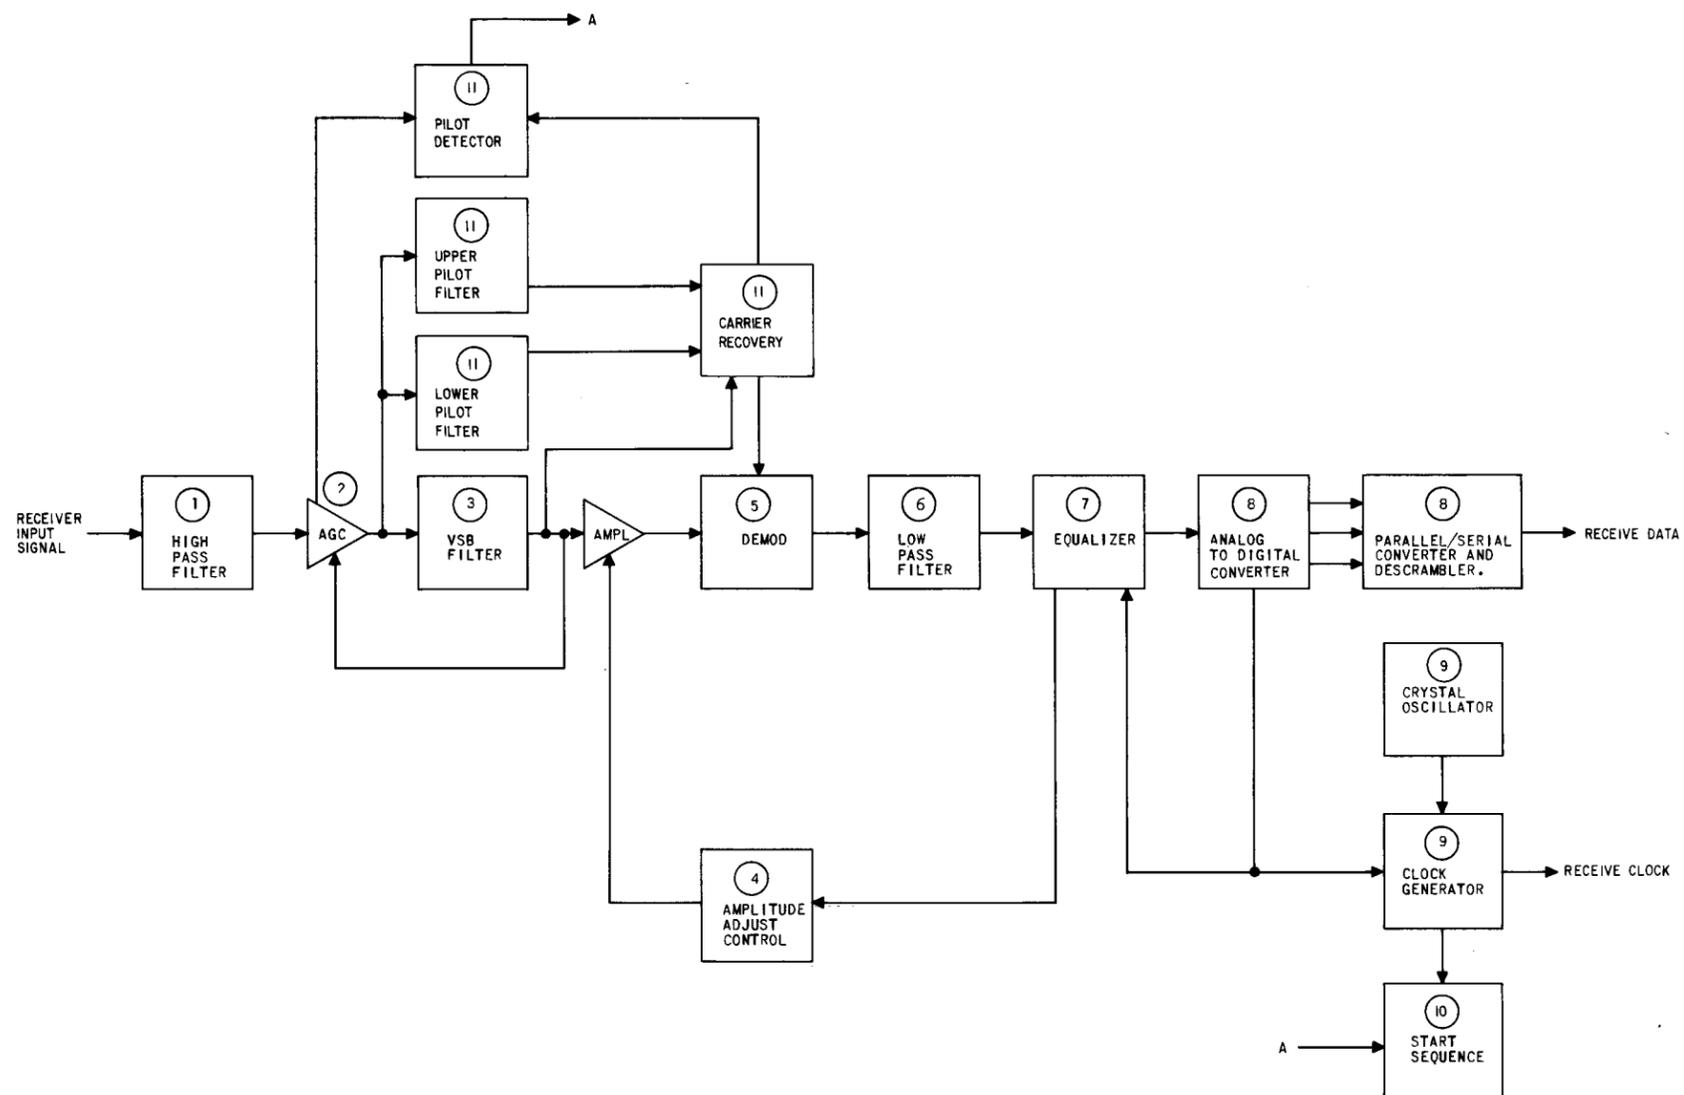

Fig. 10—Data Set 203-Type: 23A-Type Data Unit, Receiving Circuits, Block Diagram
**2.19** A block diagram of the receiver is shown in Fig. 10. The following descriptions are referenced to the functional circuit blocks.
**(a) High-Pass Filter (1)**